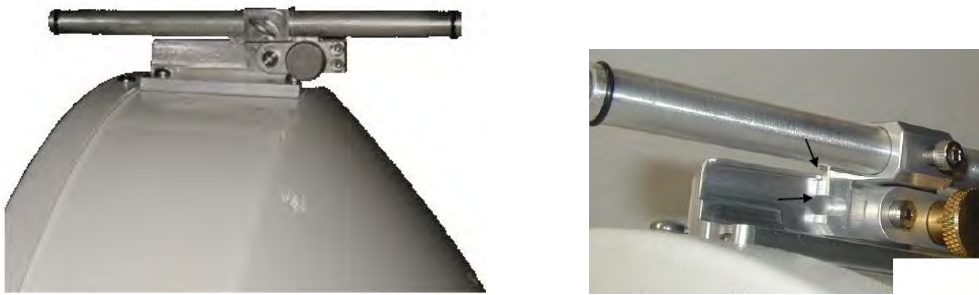

Figure 5-12: Attach Alignment Sight Tool to external 2 foot antenna
2. Slide the Sight onto the mounting bracket as shown in Fig. 5-12 (right). It is very important to make sure that the ridge on the bracket is engaged with the groove on the sight clamp.